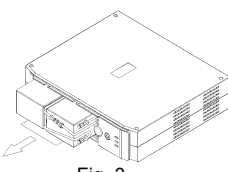

Fig. 3
- Disconnect the insulated connectors from the battery terminals (Fig. 3 & 4).
- Remove the battery then insert a new battery pack, and push the connectors onto the battery terminals (black to black & red to red) (Fig. 3 & 4).